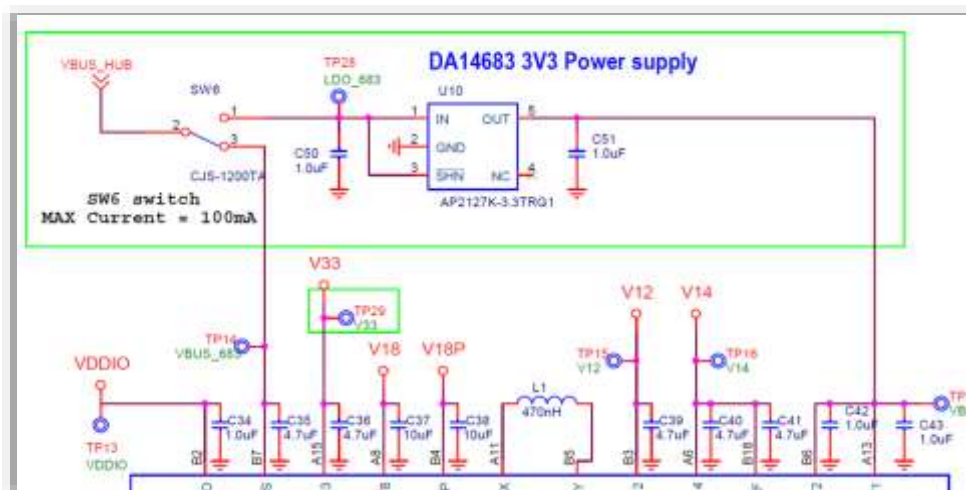
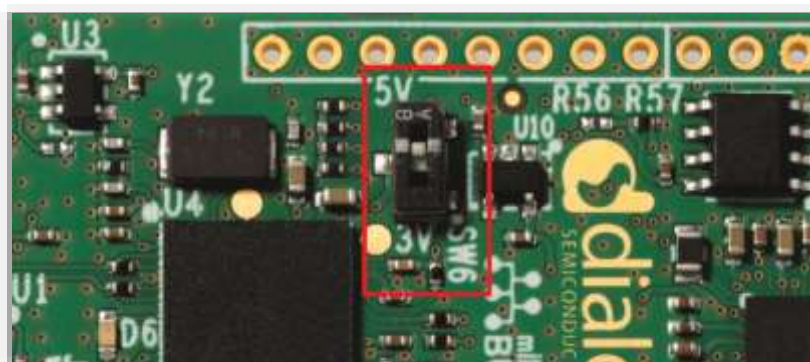

Figure 30: DA14683 power selection through SW6
Figure 31: Power selection switch SW6 (default position to 5V)
- The DA14683 SoC can be supplied either from the USB port with a voltage of 5V to the VBUS pin or through LDO (U10) with a voltage of 3.3V to the VBAT pin. The power selection is achieved through the switch SW6 (Figure 30, Figure 31). The maximum current for SW6 is 100mA. The default position of SW6 connects the VBUS pin of DA14683 with the USB port (5 V). Changes to SW configuration might be needed, depending on the SDK project and the power supply of DA14683 (VBUS or VBAT). More information about this is provided in section 6.